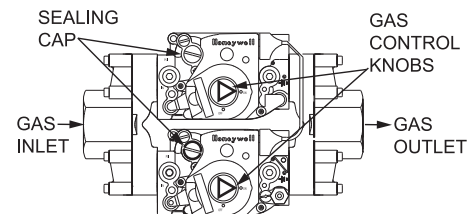

Figure 19. Combination Manual Gas Control Valve and Regulator
Figure 19 shows the type of combination manual gas control valve and regulator used on these heaters.
3. Remove the regulator adjustment sealing cap and adjust the pressure by turning the adjusting screw with a screwdriver. See **Figure 19** (page 25).